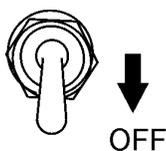

Figure 29. Idle Control Switch (OFF)
3. Place idle control switch (Figure 29) in the **OFF** position.